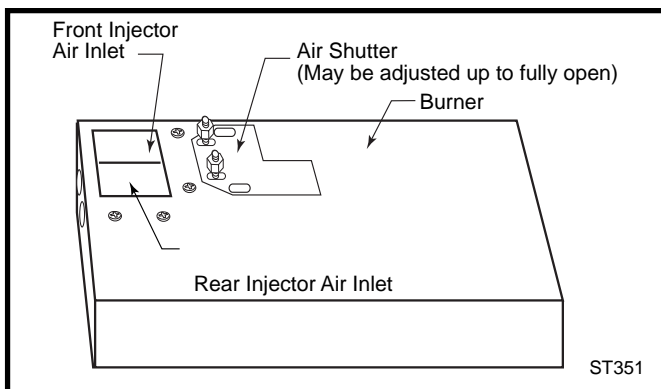

**Fig. 43** Remove rear log bracket and left and right log bracket assembly.
5. Remove the rear log bracket by unfastening the screw. (Fig. 43)
6. Remove the right and left log bracket assembly by unfastening the two screws which hold the burner in place. (Fig. 43)